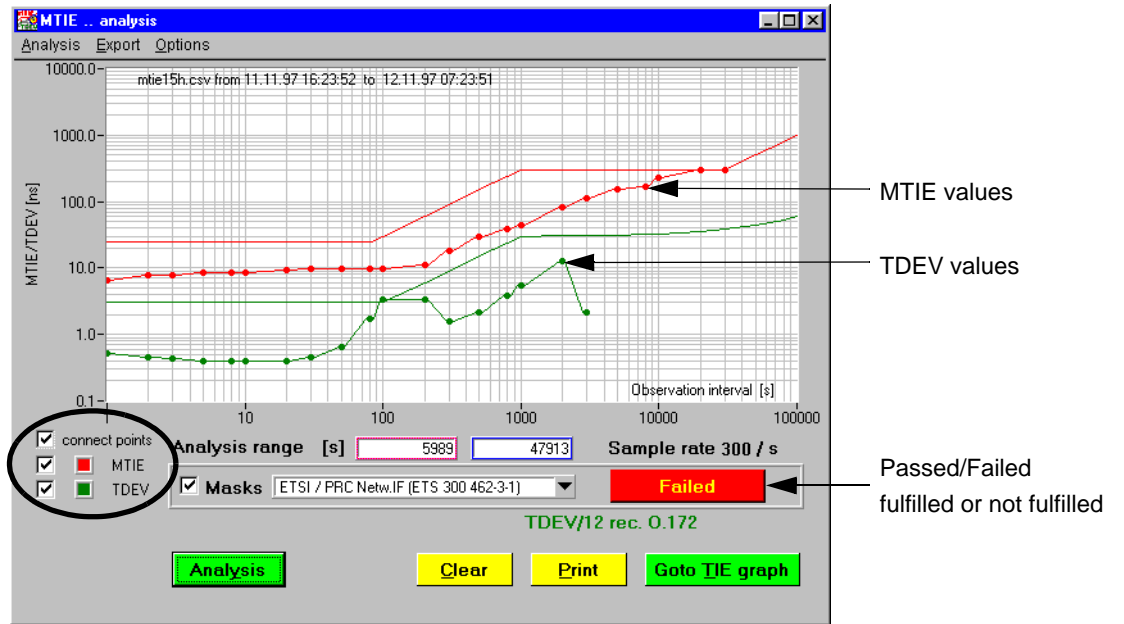

Fig. A-84 MTIE and TDEV analysis
2. Click on the “MTIE/TDEV ...” button. The “MTIE analysis” window opens (see Fig. A-84).
4. Click on the “MTIE/TDEV ...” button. The “MTIE analysis” window opens (see Fig. A-84).